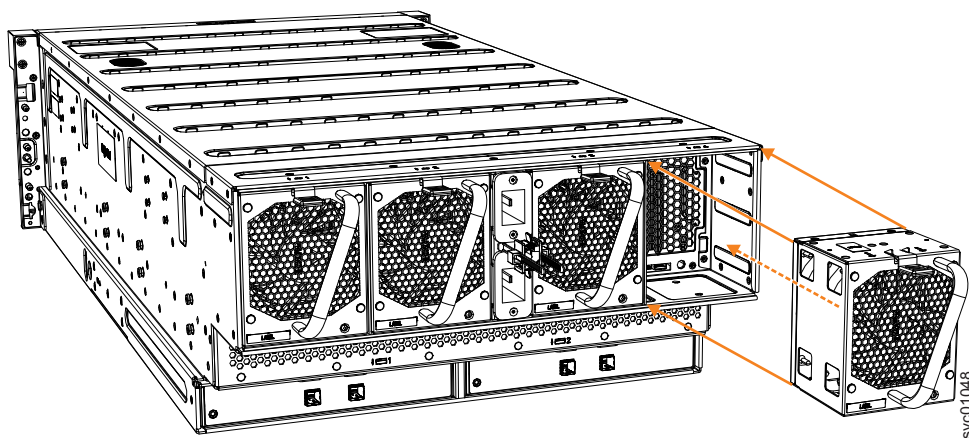

Figure 133. Replace fan module
2. Carefully insert the fan module into the chassis until it clicks in place, as shown in Figure 133 on page 265.